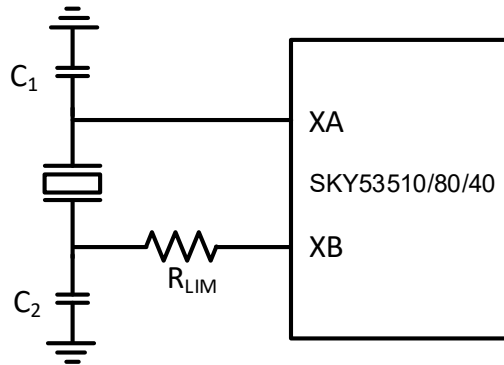

Figure 16. Crystal Interface
$I_{RMS}$  can be measured using a current probe (for example, Tektronix CT-6 or equivalent) placed on the leg of the crystal connected to XB with the oscillation circuit active. As shown in Figure 16, an external resistor,  $R_{lim}$ , can be used to limit the crystal drive level, if necessary. If the power dissipated in the selected crystal is higher than the drive level specified for the crystal with  $R_{lim}$  shorted, then a larger resistor value is mandatory to avoid overdriving the crystal. However, if the power dissipated in the crystal is less than the drive level with  $R_{lim}$  shorted, then a zero value for  $R_{lim}$  can be used. As a starting point, a suggested value for  $R_{lim}$  is 316  $\Omega$ .
2. Max Crystal ESR for 24 MHz = 50 Ω, 54 MHz = 25 Ω; C1 = 8 pF, C0 ≤ 2 pF; from Figure 16 on page 17: C1(XA) = 6.8 pF; C2(XB) = 8 pF. These values are based on the PCB layout used for characterization; equations for calculating these values for other layouts are provided in AN1405.**Table 12. DC Common Characteristics**(VDD/VDDOx = 1.8 V ± 5%, 2.5 V ± 5%, or 3.3 V ± 5%, TA = -40 to 95 °C)